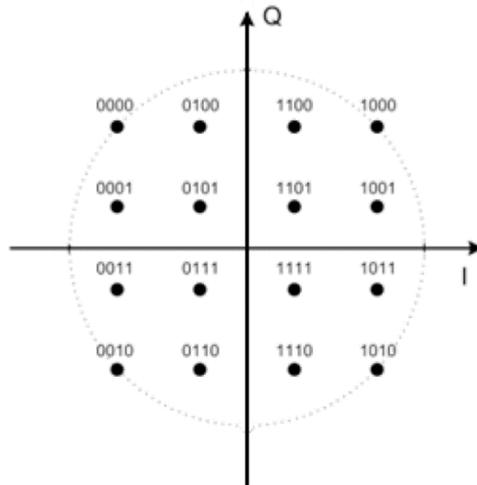

Figure 3. 16-QAM constellation diagram showing each 4-bit code.
In our QPSK example, it transmits two bits per symbol. With 2 bits, four symbols are generated. Each 2-bit code modulates a sine or cosine carrier in a balanced modulator or mixer to produce an in-phase (I) or quadrature (Q) signal. Other modulation techniques will produce even higher levels of modulation. For example, in 16-QAM each 4-bit code group generates one of 16 different symbols (Figure 3). A specific carrier amplitude and phase represents each 4-bit word. These techniques are used to extend to even higher levels, such as 64-QAM and 256-QAM, to increase the data rate in a given channel bandwidth with higher spectral efficiency.